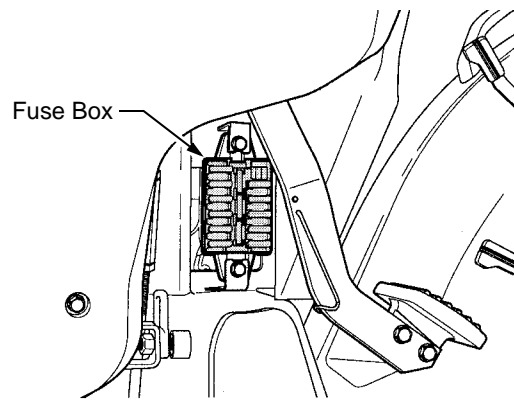

Figure 76
- Locate the fuse box on the lower left side of the pedestal near the clutch pedal. See Figure 76.